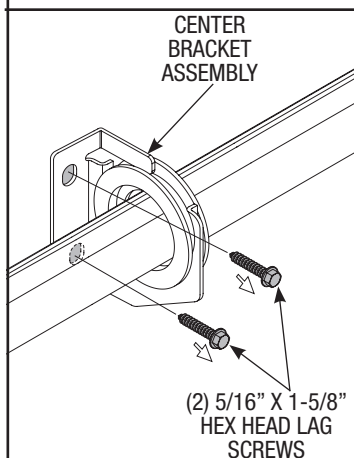

Fig. 8
Step 8: Remove the two (2) lag bolts attaching the center bracket assembly to the header board (Fig. 8).